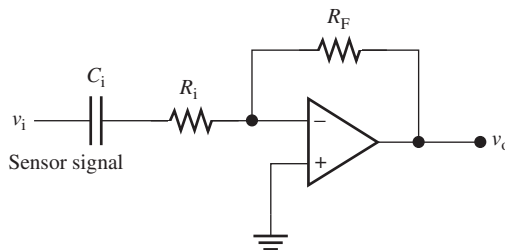

FIGURE P11.24 High-pass, active filter.
- 11.24** (A)* Consider the high-pass, active filter shown in the Figure P11.24. If $v_i(t) = 10 \cos(1000\pi \cdot t) \text{ V}$, $R_i = 150 \text{ k}\Omega$, $R_F = 200 \text{ k}\Omega$, and $C_i = 200 \text{ pF}$, find $v_o(t)$.